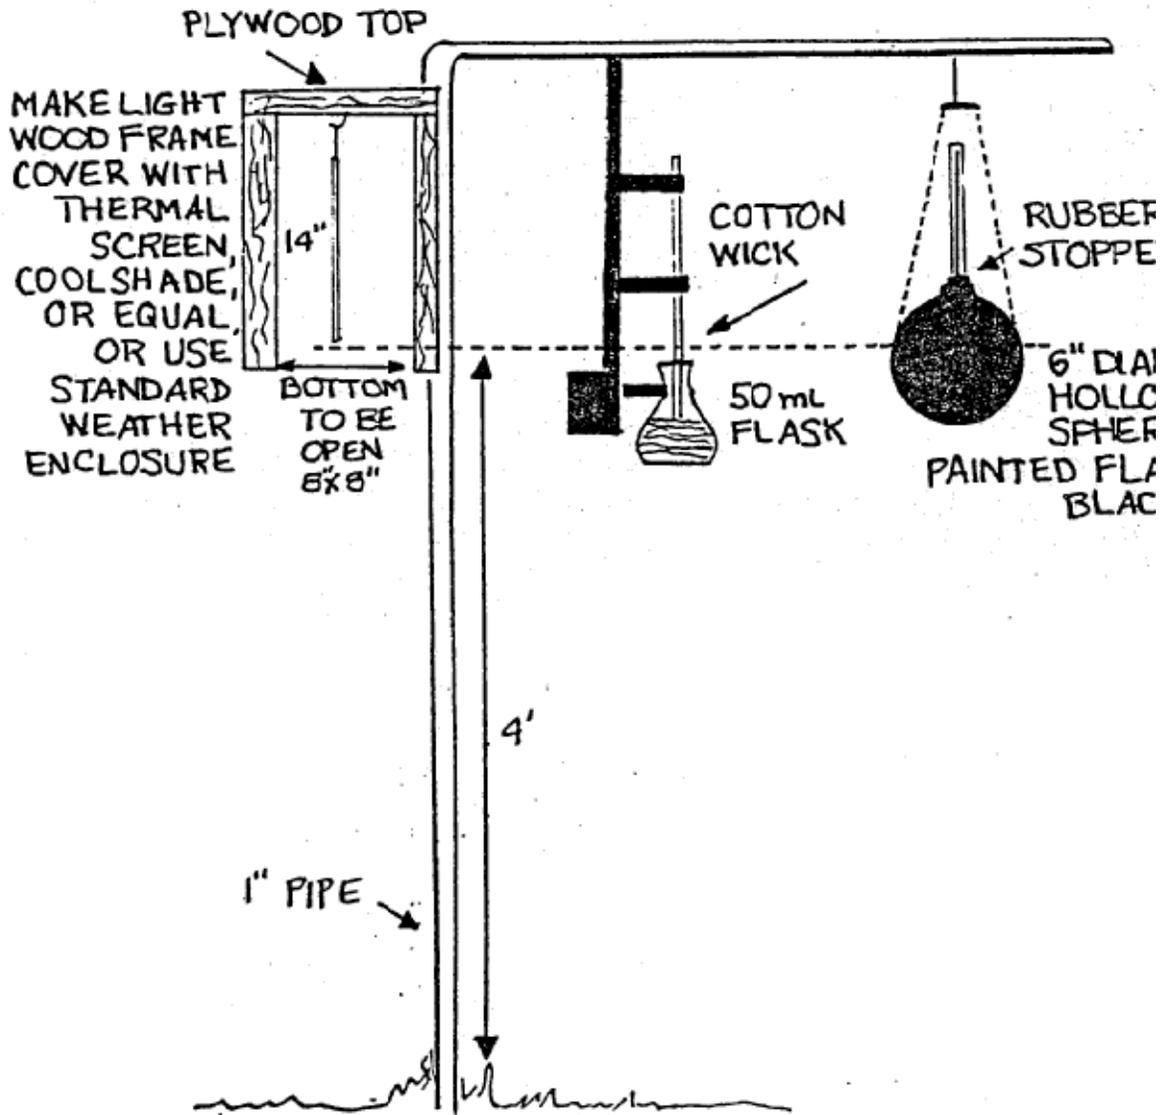

Figure 1.--Wet Bulb Globe Temperature Instrument Setup.
1. Figure 1 below depicts the proper instrument station. Although the thermo screen shelter is not shown in the drawing, it should be in the immediate vicinity. The shelter is used to house the dry bulb thermometer and spare instruments. Certain items, such as clamps, stoppers and flasks, have not been provided addressees. These items are standard and may be obtained locally.